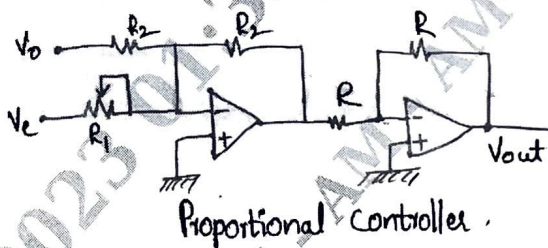

Fig Q7(b)
b. A controller is shown in Fig Q7(b) with scaling so that 0-10V corresponds to a 0-100% output. If  $R_2 = 10K\Omega$  and full scale error rang is 10V, find the values of  $V_0$  and  $R_1$  to support of 20% proportional band about a 50% zero error controller output.